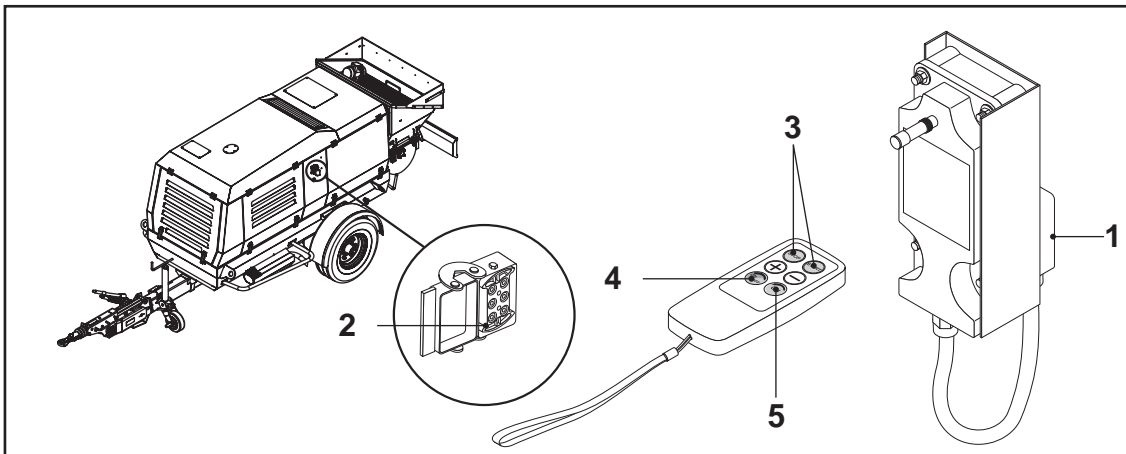

FIG.18
- Connect the plug (FIG.18-REF.1) to the connector's socket (FIG.18-REF.2).
- Use the button (FIG.18-REF.3) to switch the transmitter on and off.
- Start pumping by pressing the button (FIG.18-REF.4); press again to stop pumping.
- Reverse pumping (mix intake from hopper piping) with button (FIG.18-REF.4) at ON, press the button (FIG.18-REF.5) for as long as required.